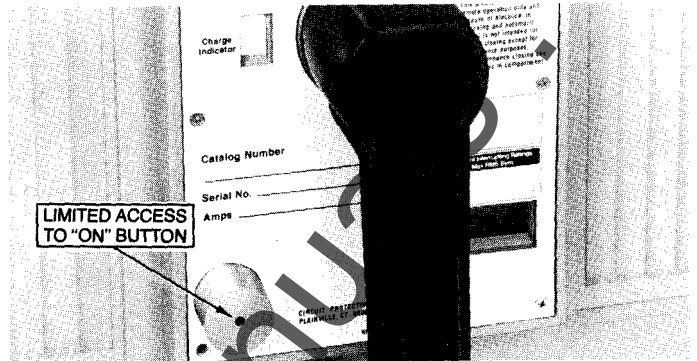

Figure 39.
1. Limited close access button ("C" suffix in catalog number) Figure 39. Provides limited manual accessibility to ON Button. Function allows breaker to be turned ON in an emergency or for maintenance by use of 3/32" diameter pin or rod.